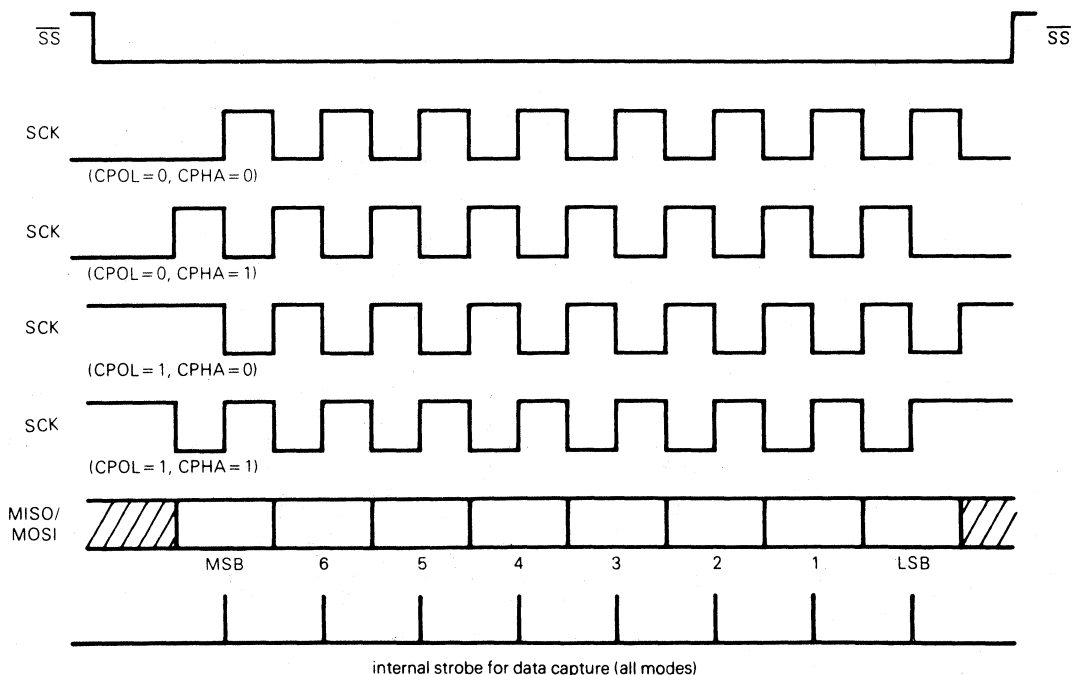

Figure 6-2. Data Clock Timing Diagram
significant bit first, least significant bit last. The timing diagrams of Figure 6-2 summarize the SPI timing diagram shown in Section 9, and show the relationship between data and clock (SCK). As shown in Figure 6-2, four possible timing relationships may be chosen by using control bits CPOL and CPHA. The master device always allows data to be applied on the MOSI line a half-cycle before the clock edge (SCK) in order for the slave device to latch the data.
The MISO pin is configured as an input in a master (mode) device and as an output in a slave (mode) device. In this manner data is transferred serially from a slave to a master on this line; most significant bit first, least significant bit last. The MISO pin of a slave device is placed in the high-impedance state if it is not selected by the master; i.e., its  $\overline{SS}$  pin is a logic one. The timing diagram of Figure 6-2 shows the relationship between data and clock (SCK). As shown in Figure 6-2, four possible timing relationships may be chosen by using control bits CPOL and CPHA. The master device always allows data to be applied on the MOSI line a half-cycle before the clock edge (SCK) in order for the slave device to latch the data.
The slave select ( $\overline{SS}$ ) pin is a fixed input (PD5, pin 34), which receives an active low signal that is generated by the master device to enable slave device(s) to accept data. To ensure that data will be accepted by a slave device, the  $\overline{SS}$  signal line must be a logic low prior to occurrence of SCK (system clock) and must remain low until after the last (eighth) SCK cycle. Figure 6-2 illustrates the relationship between SCK and the data for two different level combinations of CPHA, when  $\overline{SS}$  is pulled low. These are: 1) with CPHA = 1 or 0, the first bit of data is applied to the MISO line for transfer, and 2) when CPHA = 0 the slave device is prevented from writing to its data register. Refer to the WCOL status flag in the serial peripheral status register (location \$0B) description for further information on the effects that the  $\overline{SS}$  input and CPHA control bit have on the I/O data register. A high level  $\overline{SS}$  signal forces the MISO (master in slave out) line to the high-impedance state. Also, SCK and the MOSI (master out slave in) line are ignored by a slave device when its  $\overline{SS}$  signal is high.
The serial clock is used to synchronize the movement of data both in and out of the device through its MOSI and MISO pins. The master and slave devices are capable of exchanging a data byte of information during a sequence of eight clock pulses. Since the SCK is generated by the master device, the SCK line becomes an input on all slave devices and synchronizes slave data transfer. The type of clock and its relationship to data are controlled by the CPOL and CPHA bits in the serial peripheral control register (location \$0A) discussed below. Refer to Figure 6-2 for timing.
The master device generates the SCK through a circuit driven by the internal processor clock. Two bits (SPR0 and SPR1) in the serial peripheral control register (location \$0A) of the master device select the clock rate. The master device uses the SCK to latch incoming slave device data on the MISO line and shifts out data to the slave device on the MOSI line. Both master and slave devices must be operated in the same timing mode as controlled by the CPOL and CPHA bit in the serial peripheral control register. In the slave device, SPR0, SPR1 have no effect on the operation of the serial peripheral interface. Timing is shown in Figure 6-2.
- B3, CPOL** The clock polarity bit controls the normal or steady state value of the clock when data is not being transferred. The CPOL bit affects both the master and slave modes. It must be used in conjunction with the clock phase control bit (CPHA) to produce the wanted clock-data relationship between a master and a slave device. When the CPOL bit is a logic zero, it produces a steady state low value at the SCK pin of the master device. If the CPOL bit is a logic one, a high value is produced at the SCK pin of the master device when data is not being transferred. The CPOL bit is not affected by reset. Refer to Figure 6-2.
- B2, CPHA** The clock phase bit controls the relationship between the data on the MISO and MOSI pins and the clock produced or received at the SCK pin. This control has effect in both the master and slave modes. It must be used in conjunction with the clock polarity control bit (CPOL) to produce the wanted clock-data relation. The CPHA bit in general selects the clock edge which captures data and allows it to change states. It has its greatest impact on the first bit transmitted (MSB) in that it does or does not allow a clock transition before the first data capture edge. The CPHA bit is not affected by reset. Refer to Figure 6-2.